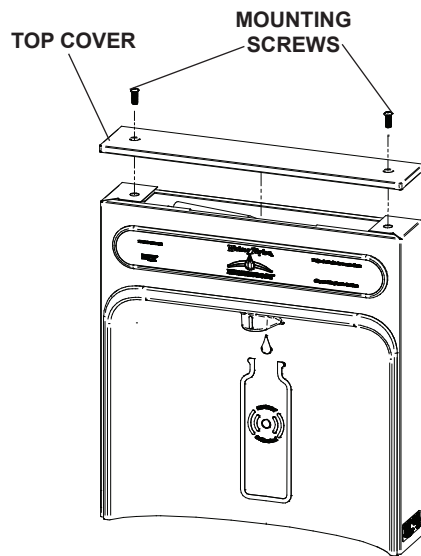

Fig. 12
- 1) Remove two (2) mounting screws with 5/32" Allen wrench holding top cover to Bottle Filler (See Fig. 12). Remove top cover. Note do not discard mounting screws, they will be needed to reinstall top cover.
- 9) Once Bottle Filler is installed on wall plate tabs, water line, and power cord are installed properly, push top of Bottle Filler toward wall and line up top cover two (2) holes.
- 10) Reinstall Top Cover on Bottle Filler (See Fig. 12) with two mounting screws from step 1 above. Caution, do not over tighten screws.